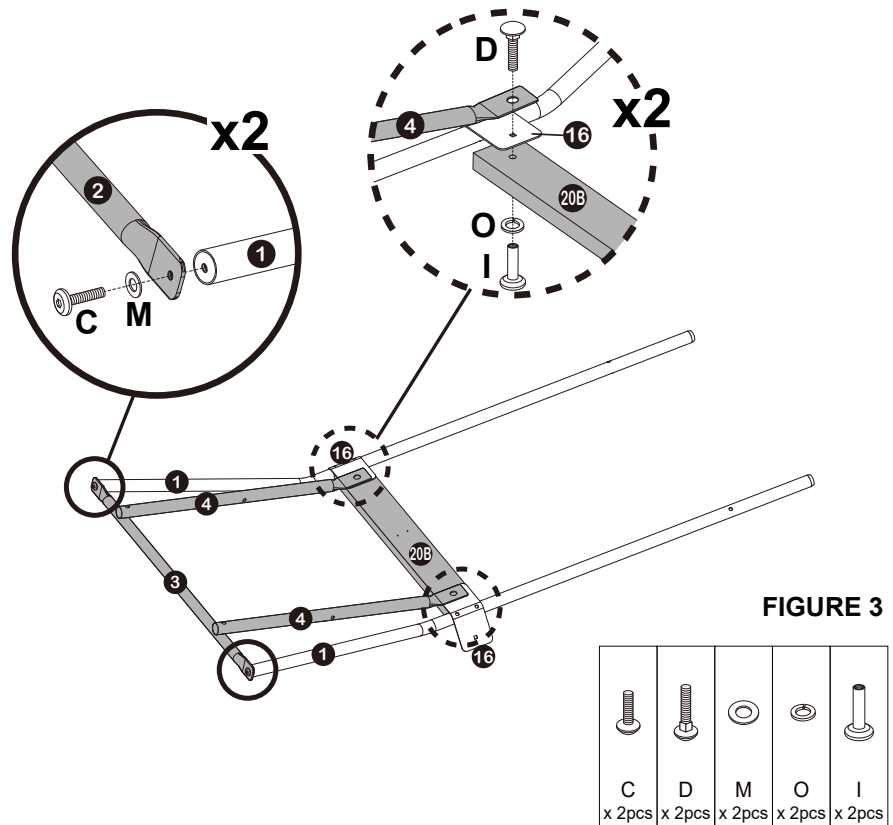

FIGURE 3
- Attach Base Connection Tube (3) to Support Tube (1)
- Attach Ladder Support Tube (4) and Connection Wood (20B) to Connection Plate (16) as shown in Figure 3.